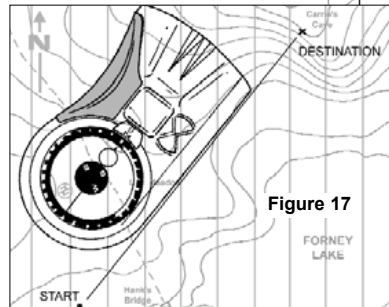

Figure 17
5. Place clear base next to the bearing line. (Fig 17)